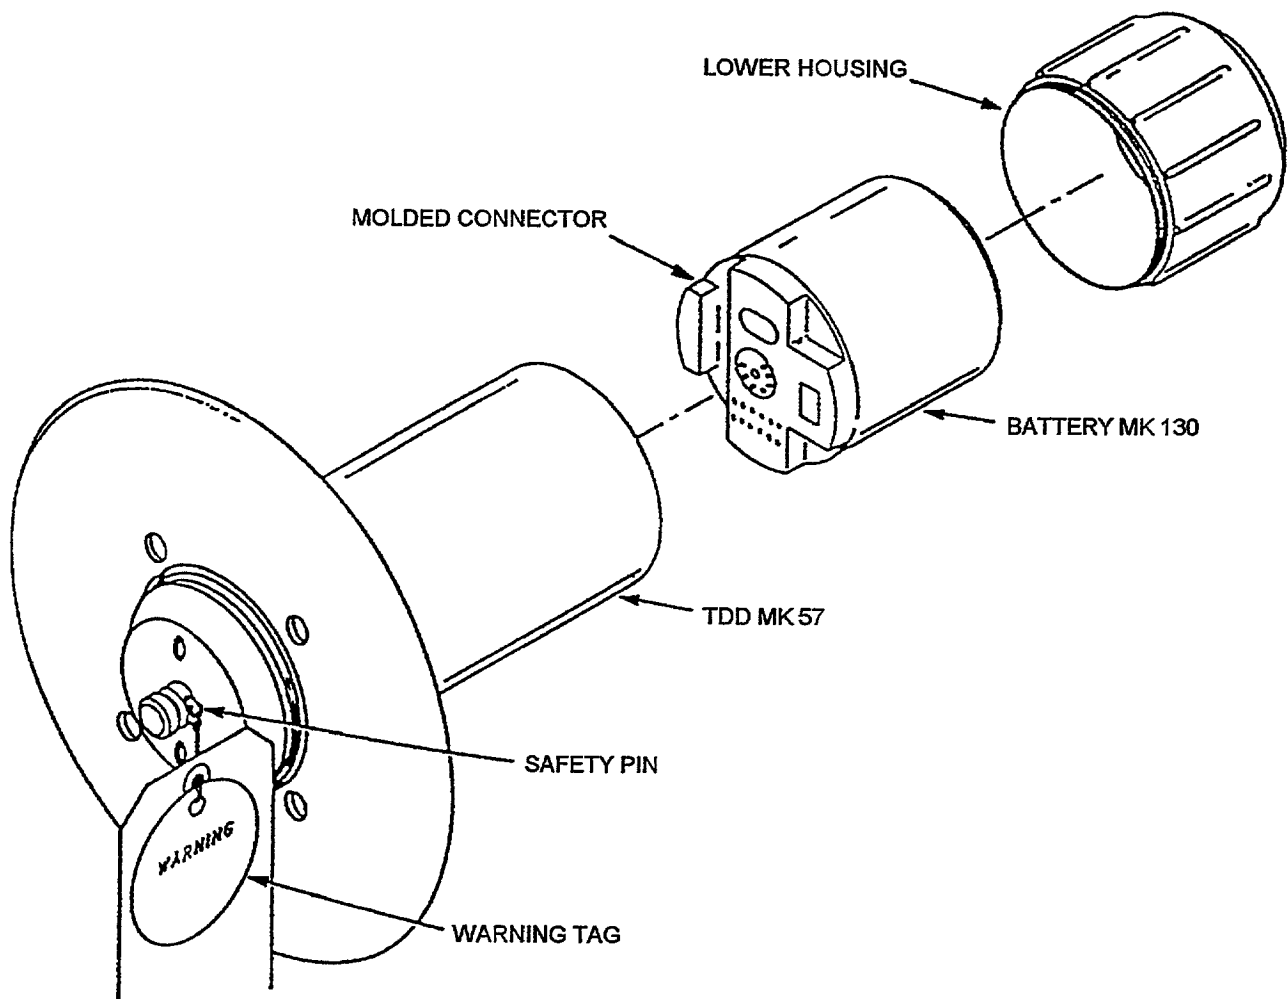
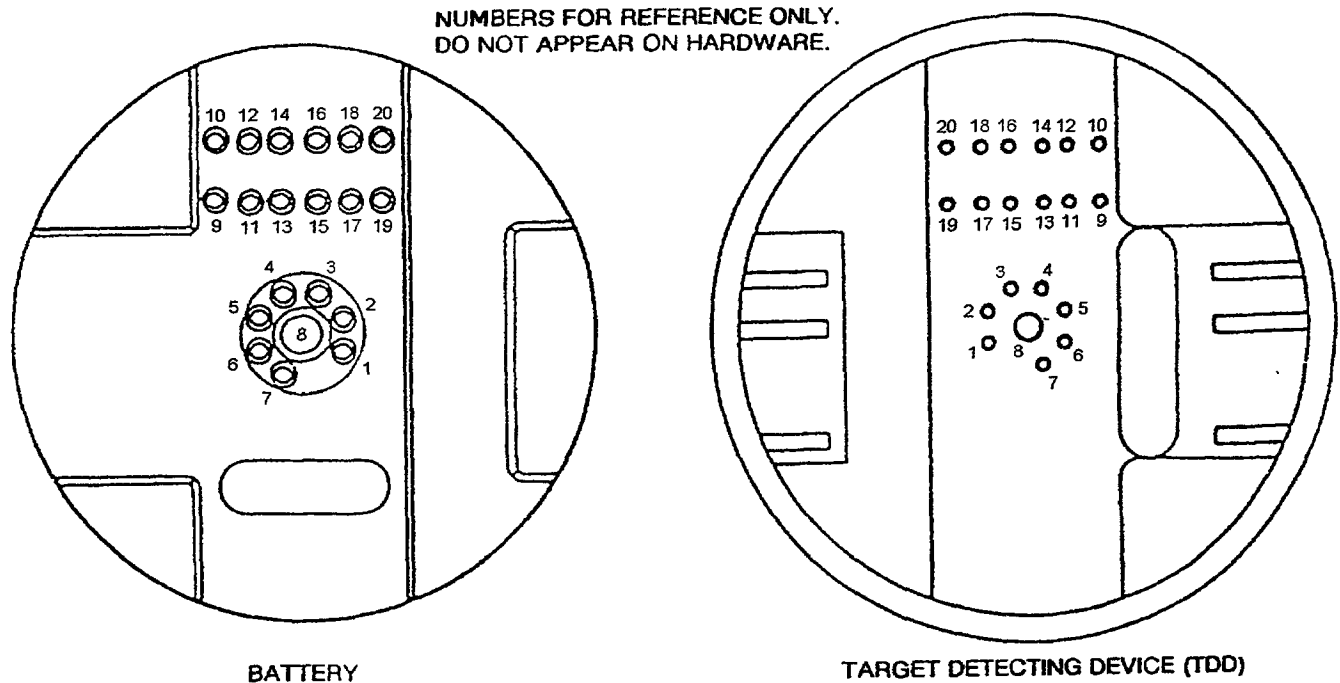

Figure 4-2B. Installation of Battery Mk 130 into TDD Mk 57
Figure 4-2C. Battery Mk 130 Socket and TDD Mk 57 Pin Arrangement
- e. Insert battery into base of TDD (Figure 4-2B). Ensure that molded connector of battery mates firmly with molded connector in base of TDD (Figure 4-2C).
- f. Insert battery into base of TDD (Figure 4-2B). Ensure molded connector of battery mates firmly with molded connector in base of TDD (Figure 4-2C).